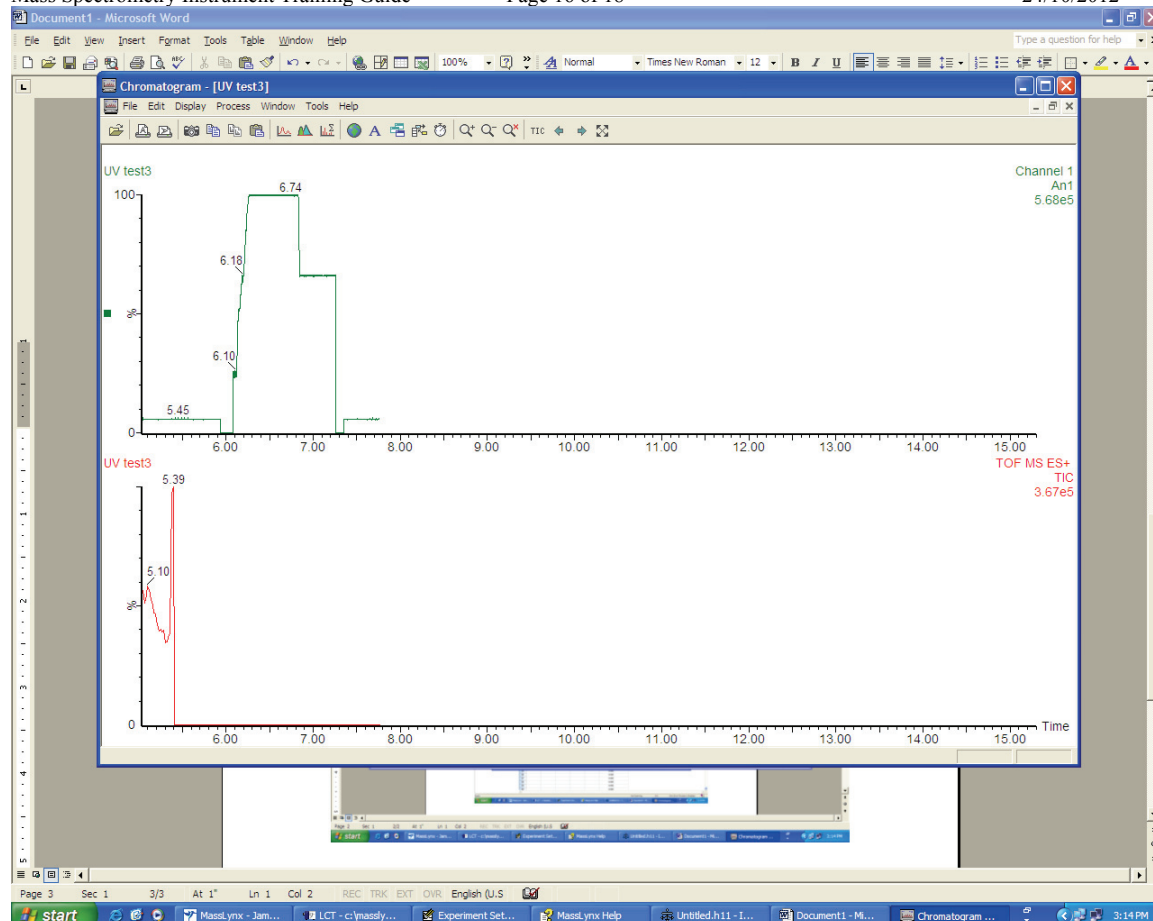

Figure 18: UV trace for the wavelength selected in the inlet method is added to or replaces the TIC trace in the chromatogram window.
4.6 UV trace for the wavelength selected in the inlet method is added to or replaces the TIC trace in the chromatogram window (Figure 18).